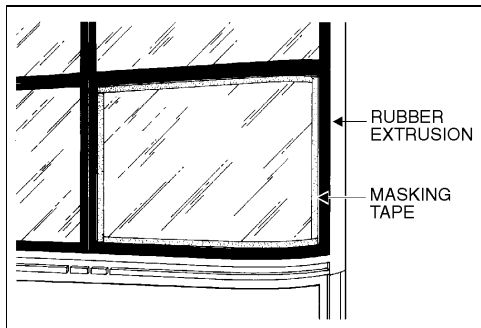

FIGURE 56: WINDSHIELD
- Mask the windshield following the contour of the rubber extrusion. See figure 56.